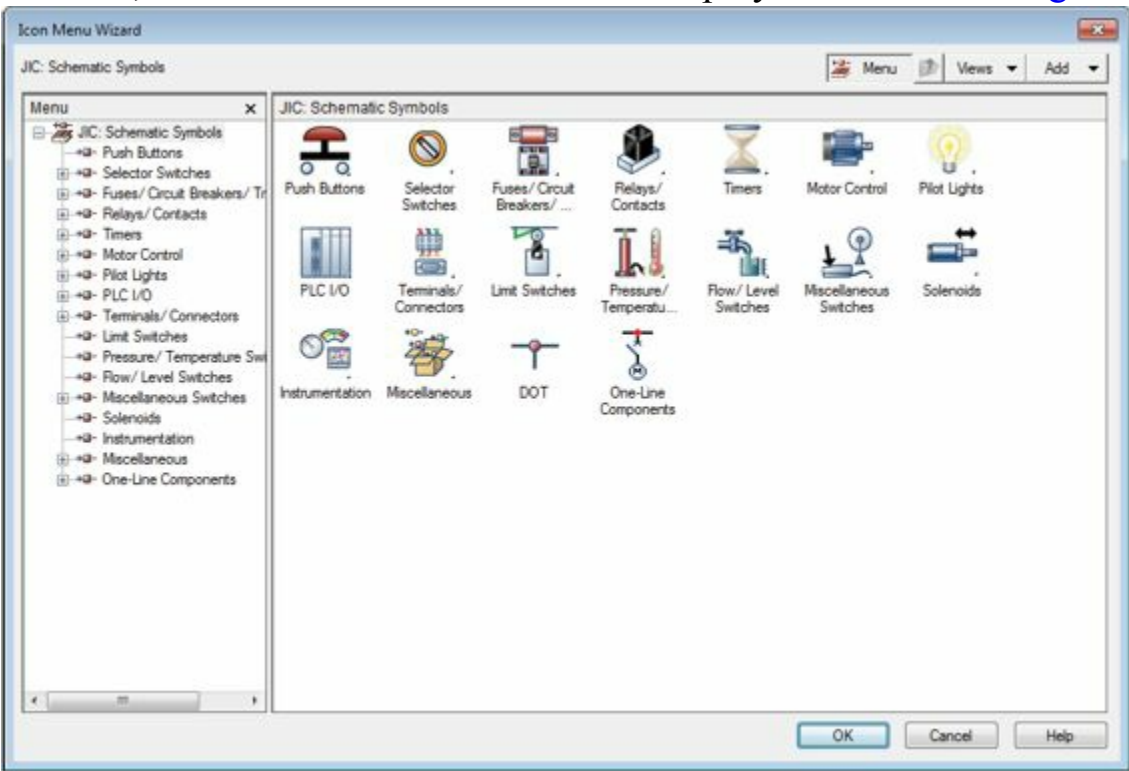

Figure-53. Icon Menu Wizard dialog box
- Click on the **OK** button from the dialog box. Note that you can select desired menu file by using the **Browse** button. By default, the default menu files are selected in the dialog box. On clicking **OK** button, the **Icon Menu Wizard** will be displayed as shown in Figure-53.